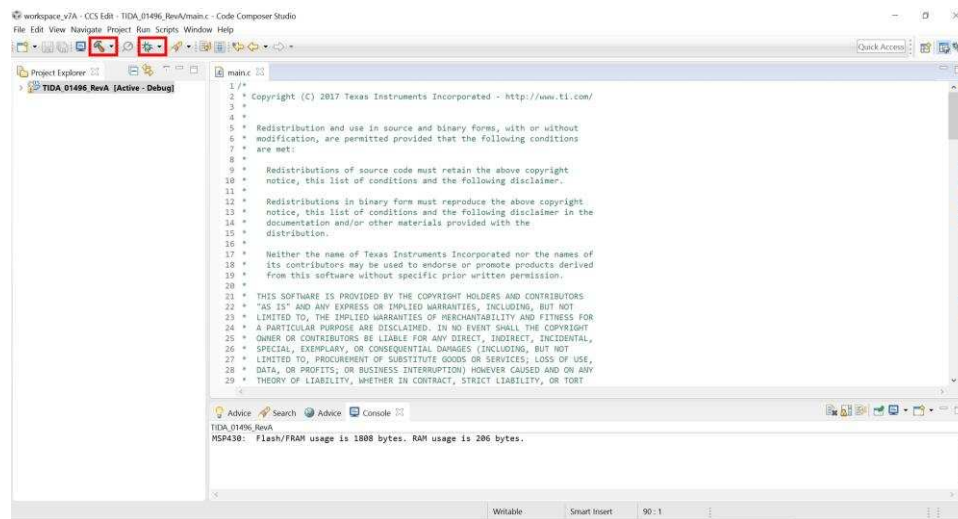

Figure 7. Building and Debugging Project in CCS
3. Build the project by clicking the Build button (hammer icon), which if run successfully, appears as shown in Figure 7.
4. Click the Debug button (bug icon) as Figure 7 shows.